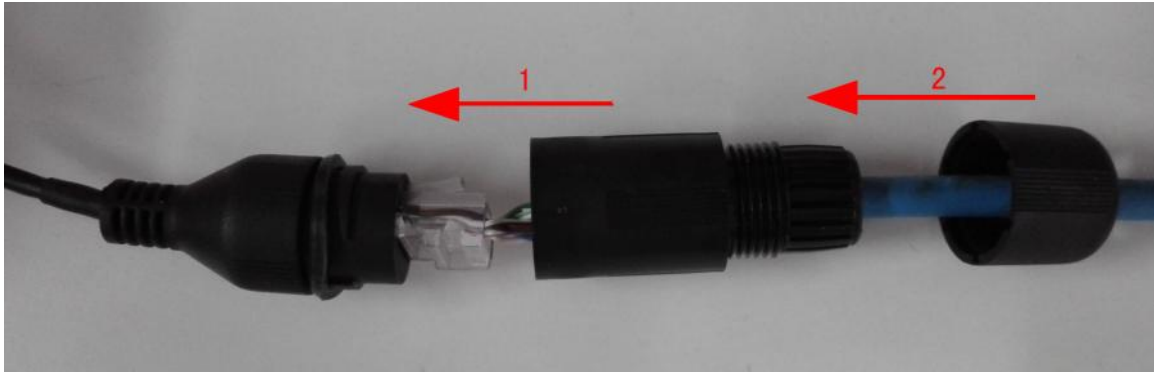

Figure 3-8
- 4) Insert the network cable to the network port and then follow the sequence marked in Figure 3-8 to fasten the jacket.